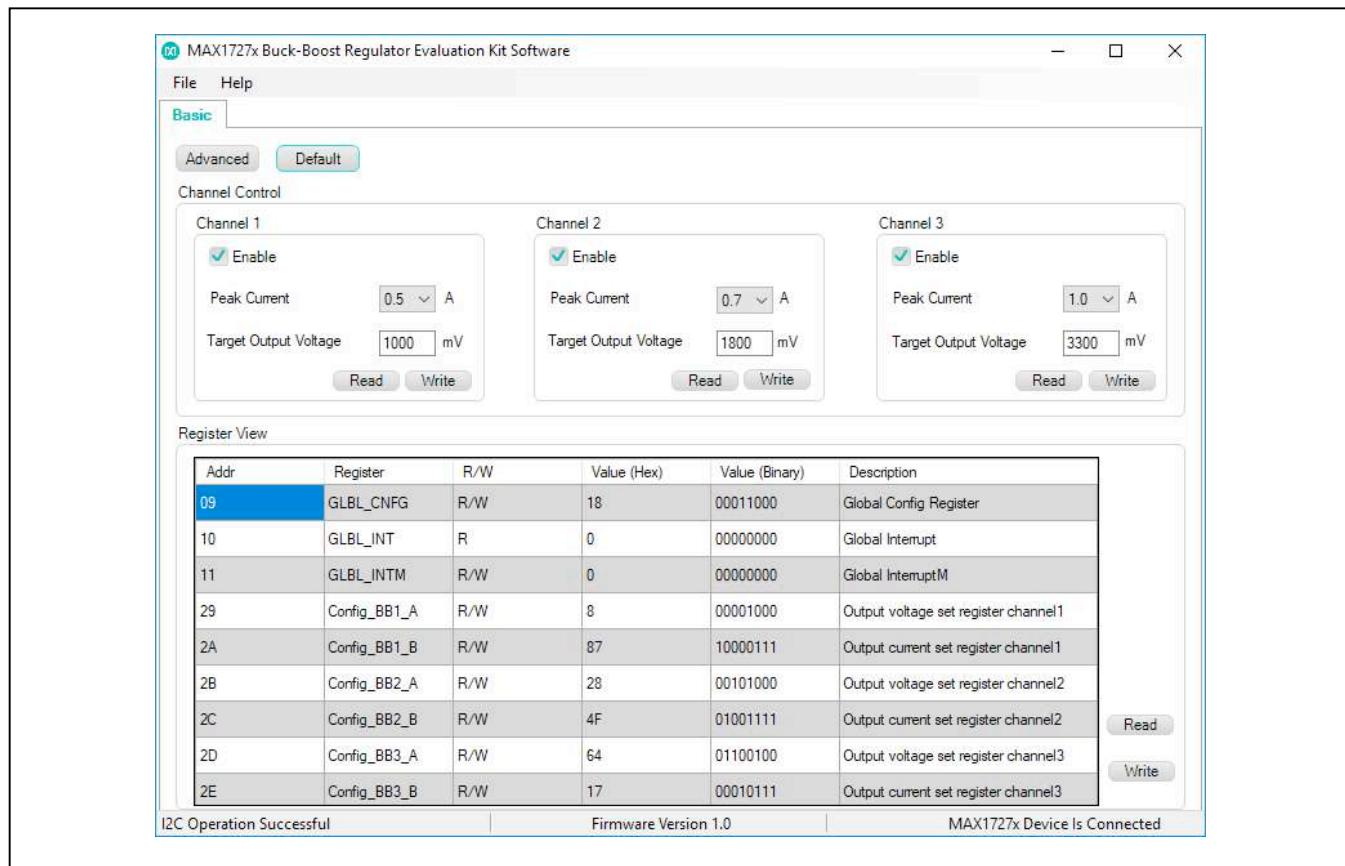
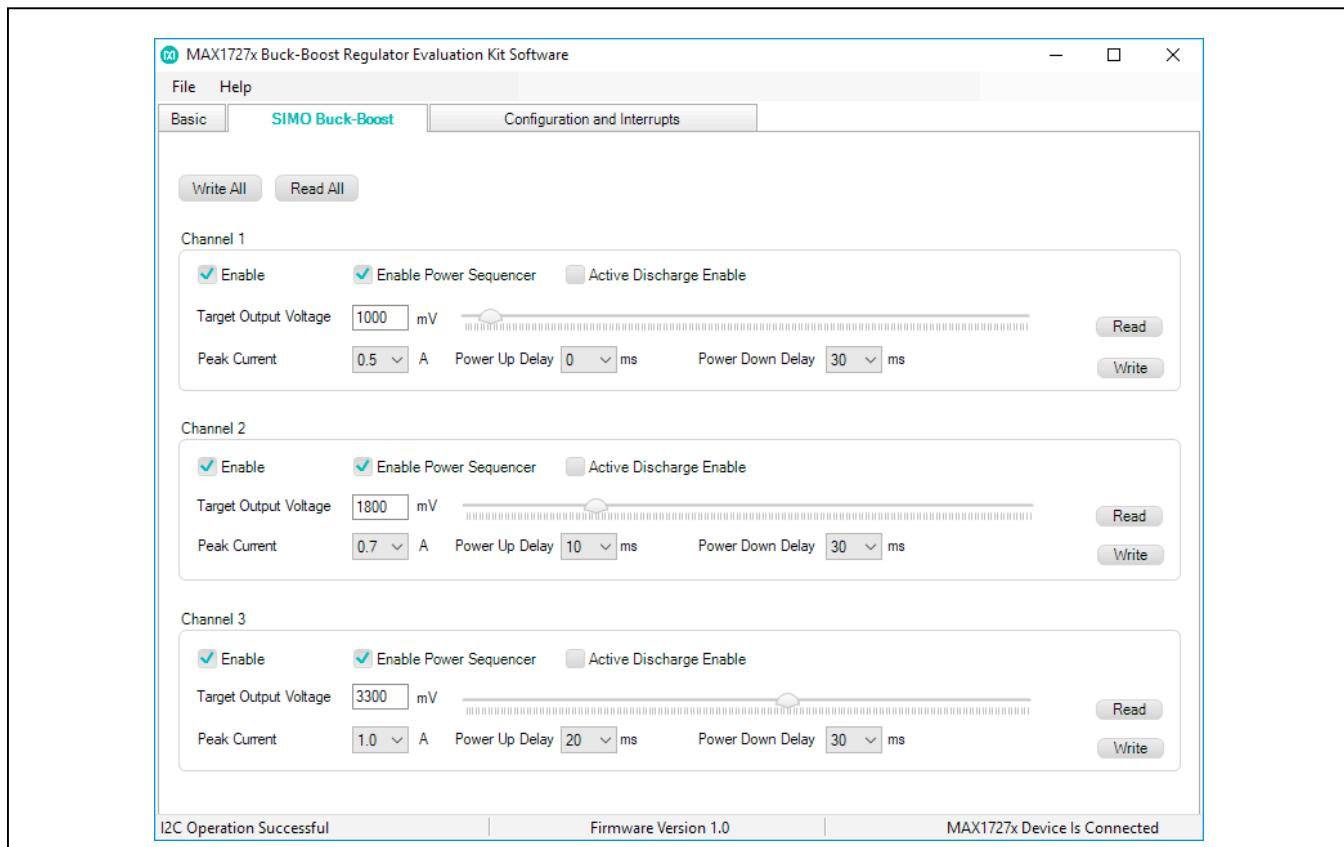
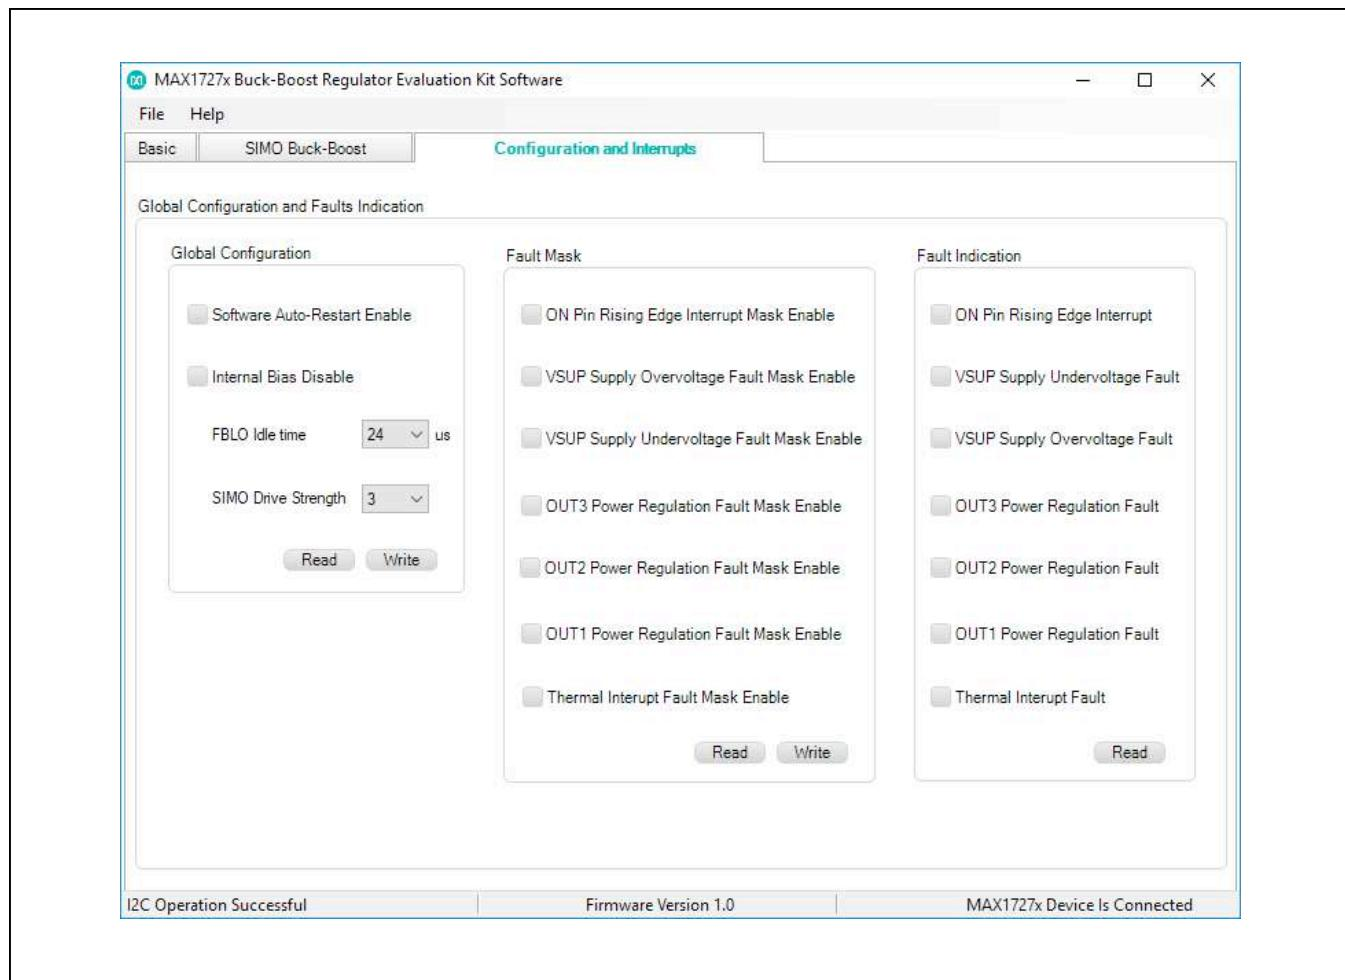

Figure 1. MAX17271 Evaluation Kit Software Default (and Advance) Mode, Basic Panel Window
Figure 2. MAX17271 Evaluation Kit Software Advance Mode, SIMO Buck-Boost Panel Window
Figure 3. MAX17271 Evaluation Kit Software Advance Mode, Configuration, and Interrupts Panel Window
- 6) Open the EV kit GUI, MAX17271EVKit.exe and select **File**→**Connect**. See Figure 1.
- 18) Open the EV kit GUI, MAX17271EVKit.exe and select **File→Connect**. See Figure 1.
The MAX17271 EV kit software GUI shown in Figure 1 provides a convenient means to control the MAX17271. The MAX17271 EV Kit software features two operation modes: Default and Advanced modes. The Default mode provides only one control panel, the Basic panel (Figure 1). While the Advanced mode provides three control panels, the Basic, the SIMO Buck-Boost, and the Configuration and Interrupts panels (Figure 2 and Figure 3).